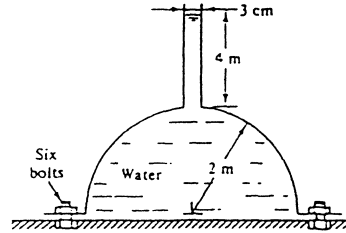

Fig. P2.91
**2.91** The hemispherical dome in Fig. P2.91 weighs 30 kN and is filled with water and attached to the floor by six equally-spaced bolts. What is the force in each bolt required to hold the dome down?